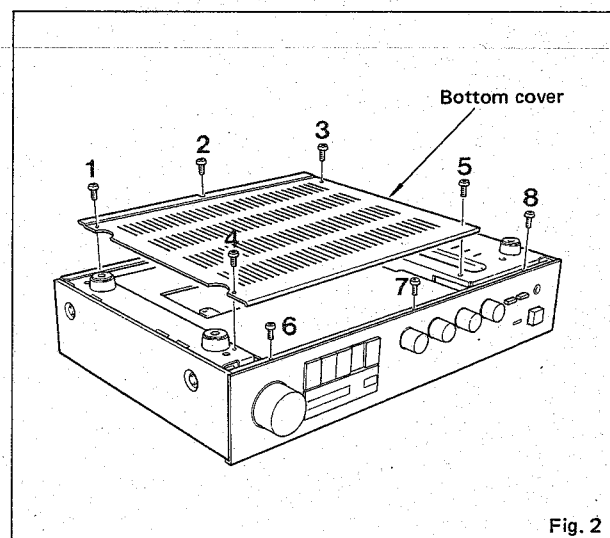
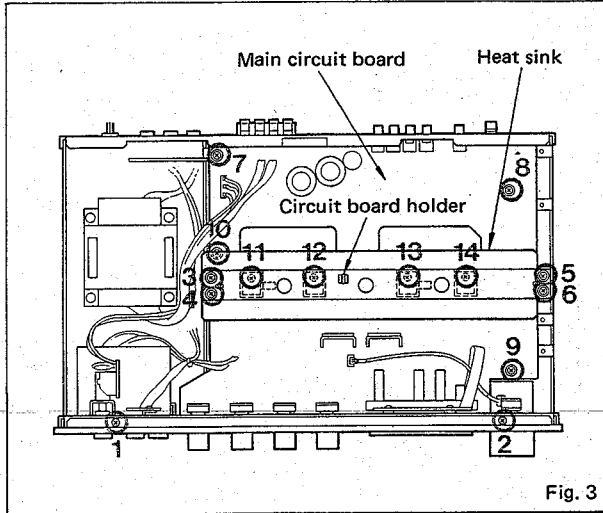

Fig. 2
Fig. 3
Remove screws ① through ⑤ in fig. 2 and then remove the bottom cover.
- b. Remove screws ⑥ through ⑧ in fig. 2 and screws ① and ② in fig. 3, and then remove the front panel.
- b. Remove screws (⑪ through ⑭ in fig. 3) by which power transistors are screwed down.
- c. Remove screws ③ through ⑥ in fig. 3 and then remove the heat sink by holding the circuit board holder with a plier or the like.
- f. Remove screws ⑦ through ⑩ in fig. 3 and then remove the main circuit board.